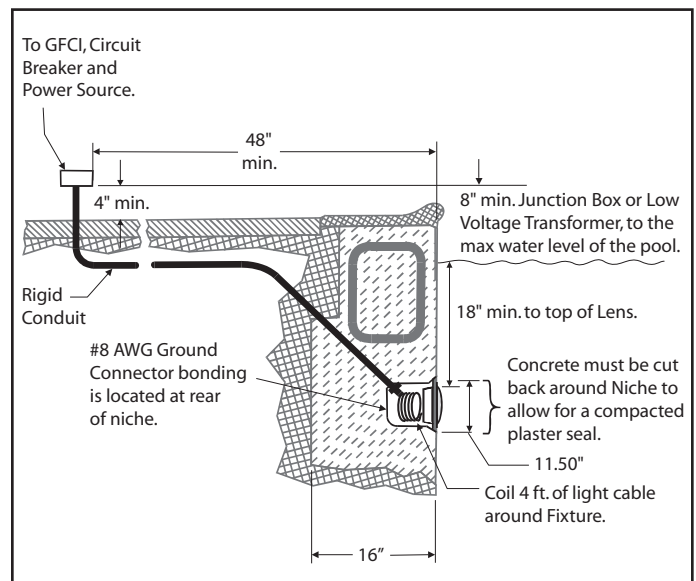

Figure 1. Jandy Pro Series LED Light Installation
**NOTE** The electrician must complete preparatory steps before light fixture is installed. See Figure 1.
2. The junction box (or, for 12 volt models, the low voltage transformer) must be located at least eight (8) inches above water level, at least four (4) inches above ground level, and at least four (4) feet from the edge of the pool. See Figure 1.
(5) feet of the pool must be properly electrically bonded to a reliable point of grounding.
4. The wet niche must be properly installed so that the top edge of the underwater light's lens is at least 18 inches below the surface of the water in the pool. See Figure 1.
5. The wet niche must be properly electrically bonded and grounded via the No. 8 AWG ground connector located at the rear of the niche. See Figure 1.
1. Feed cord through conduit to junction box, leaving at least four (4) feet of cord at the light fixture to coil into the base of the light niche, see Figure 1. The four (4) feet of cord allows the light to be serviced after the pool is filled with water.
2. Cut the cord at the junction box, leaving at least six (6) inches of cord to make connections.
3. Strip six (6) inches of the outer cord jacket to expose the three insulated wires. *Be careful not to damage the insulation on the three (3) inner wires.*
4. Install strain relief over cord jacket and connect all three (3) wires to the corresponding circuit wires in the junction box. Install the junction box cover.
2. The junction box (or, for 12 volt models, the low voltage transformer) must be located at least eight (8) inches above water level, at least four (4) inches above ground level or pool deck level, and at least 48 inches from the edge of the pool or spa. See Figure 1.
3. The light fixture and all metal items within five (5) feet of the pool must be properly electrically bonded to a reliable point of grounding.
4. The wet niche must be properly installed so that the top edge of the underwater light’s lens is at least 18 inches below the surface of the water in the pool. See Figure 1.
5. Leave at least four (4) feet of cord to coil around the light fixture or coiled into the base of the light niche, see Figure 1. This allows the light to be serviced after the pool is filled with water.
6. Cut the cord at the Junction Box, leaving at least six (6) inches of cord to make connections.
7. Strip six (6) inches of the outer cord jacket from the cord to expose the three insulated wires. *Be careful not to damage the insulation on the three (3) inner wires.*